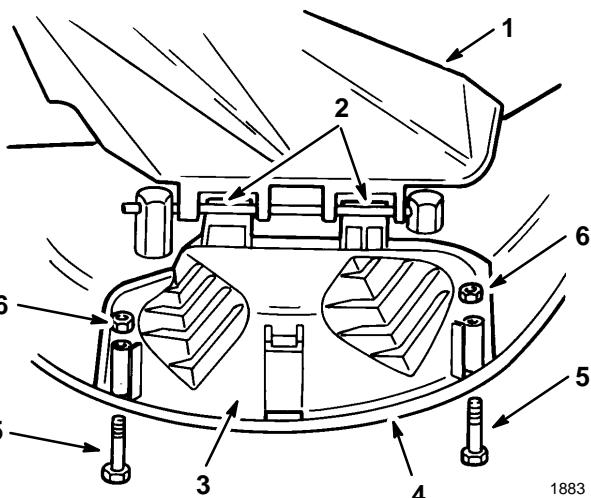

Figure 14
1. Lift the grass deflector and slide the tabs on top of the discharge cover under the grass deflector retaining rod. Rotate the discharge cover down over the opening, and onto the lower lip of the mower (Fig. 14).
2. Secure the discharge cover to the lower lip of the mower with bolts and nuts (Fig. 14).